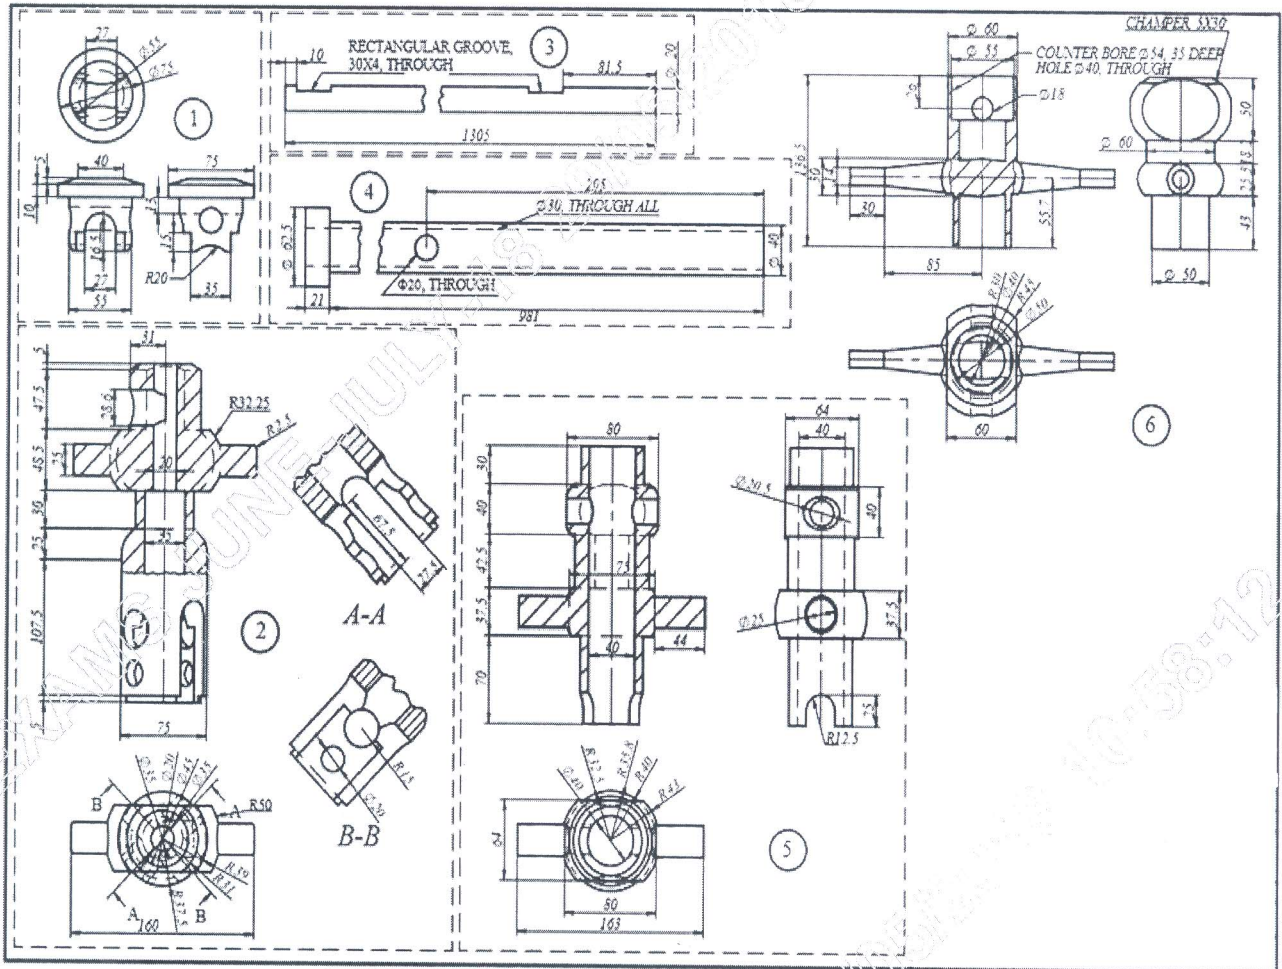

Fig. 2
6. The details of a DESIGN OF MAIN ROTOR BLADE ASSEMBLY OF HELICOPTER are shown in Fig. 2. Draw the following views of the assembly.